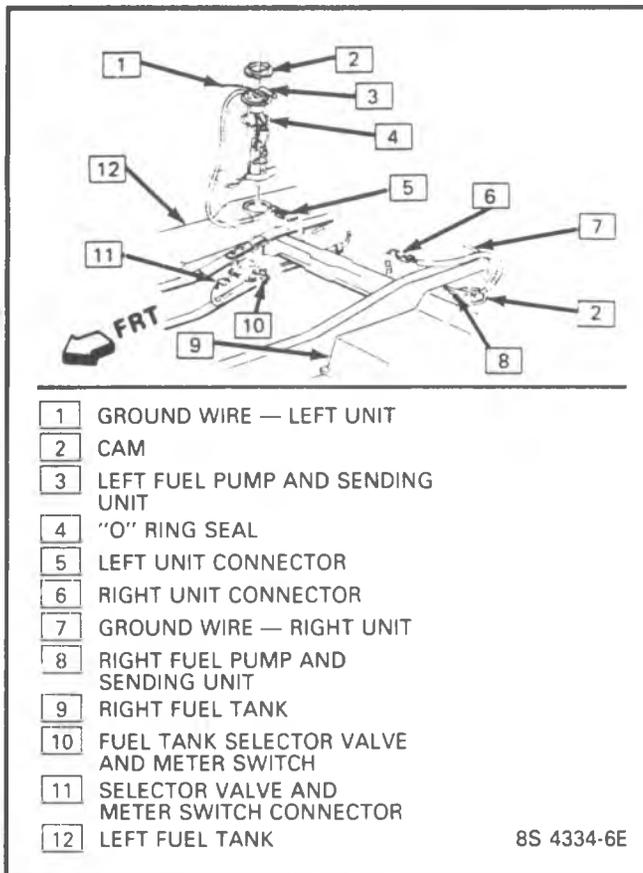

Figure 3-14 Selector Valve and Meter Switch Connector
1. Disconnect fuel tank selector valve and meter switch connector. (Figure 3-14)